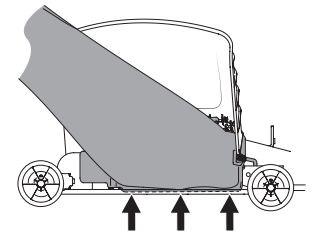

Figure 21
**IMPORTANT!** Be certain that the bottom of the discharge chute is located inside of the lip of the deck opening, as shown in Figure 21.